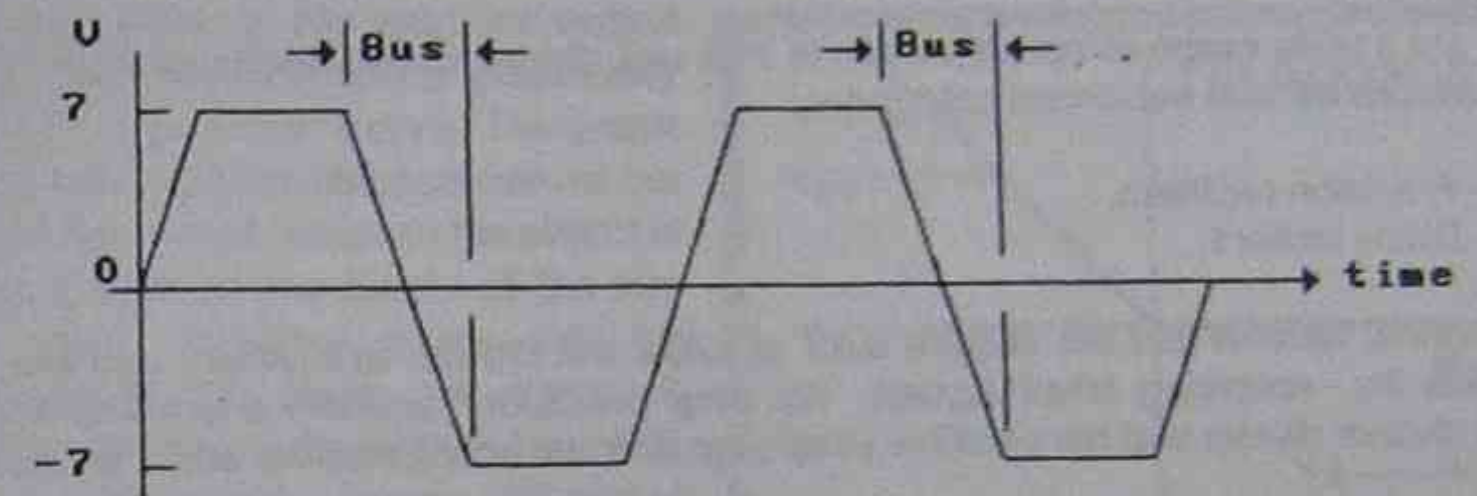

Fig.1.
2. Determine the slew rate of the op amp whose output response to a square wave is shown in Fig.1.